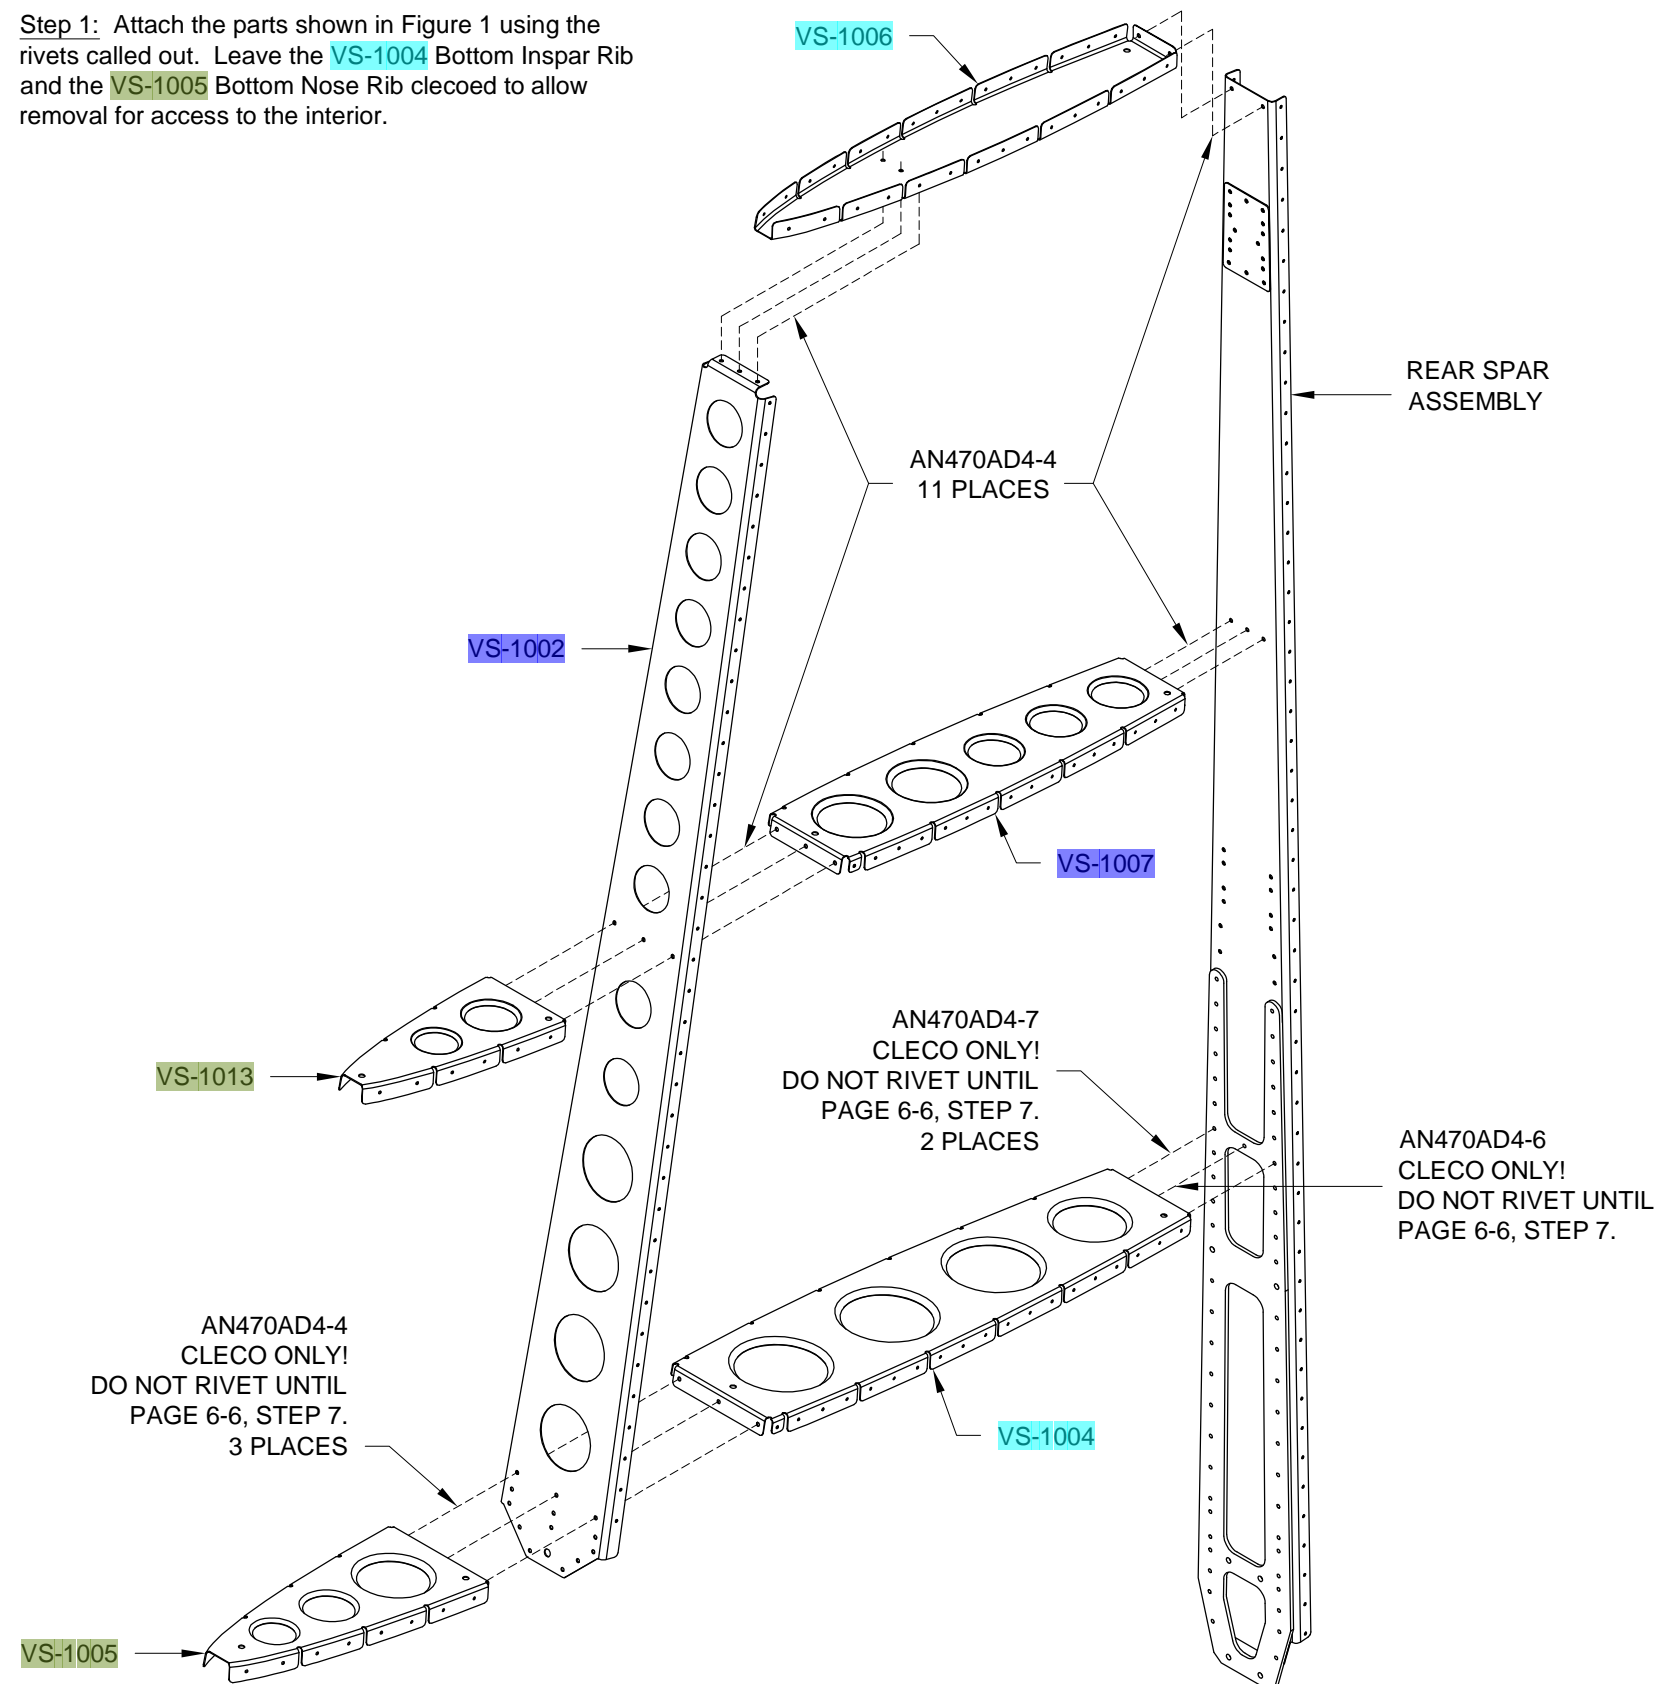

FIGURE 1: RIB RIVETS
Step 1: Attach the parts shown in Figure 1 using the rivets called out. Leave the **VS-1004** Bottom Inspar Rib and the **VS-1005** Bottom Nose Rib clecoed to allow removal for access to the interior.
Step 1: Cleco the **VS-1001** Vertical Stab Skin to the skeleton. Use plenty of clecos to keep the parts aligned while riveting. Figure 1 provides rivet sizes for the vertical stab skin.